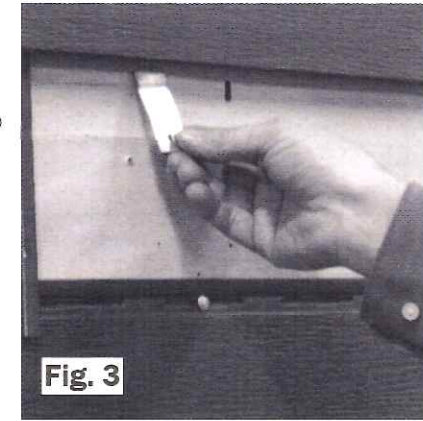

Fig. 3
- Install Select panel replacement clips by inserting the locking tab end of the clip into the gravity lock on the panel above the one you removed. Nail the clip to the wall. Place clips at a minimum of 16" apart. This will secure the bottom of the panel. (Fig. 3)